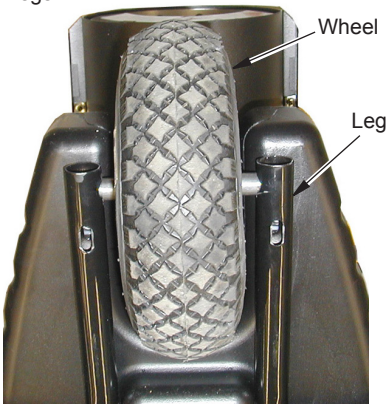

Figure 7 - Installing Wheel and Axle
7. Assemble wheel axle into front holes of legs (see Figure 7).